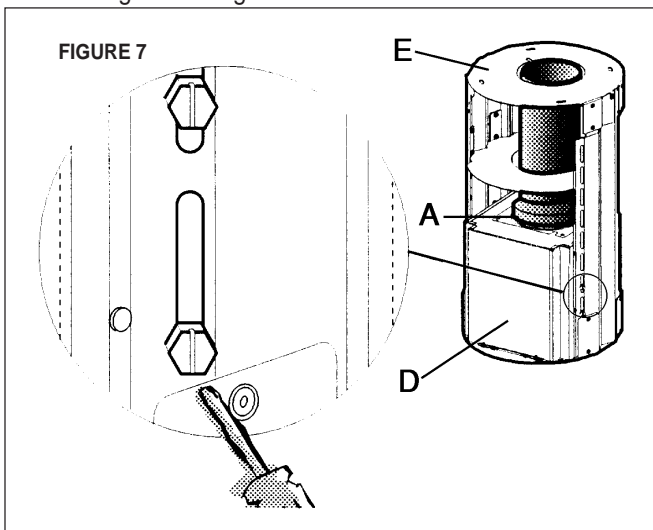
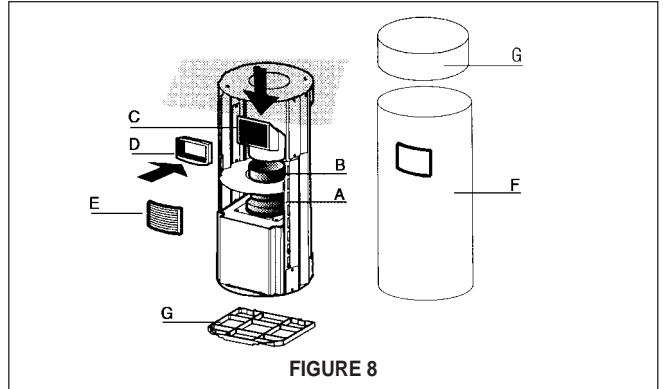

FIGURE 7
FIGURE 8
5. Determine the proper location for the Power Supply Cable as indicated on the template. Use a 1 1/4" Drill Bit to make this hole. Run the Power Supply Cable. Use caulking to seal around the hole. **DO NOT turn on the power until installation is complete!** A knockout is provided at the top of the UPPER CHIMNEY SUPPORT (E in FIGURE 7).
6. For ducted installations, place the round DAMPER (A in FIGURE 7) into the exhaust opening of the rangehood and press down.
7. Before attaching the support to the ceiling, you must determine the desired length of the support structure and adjust the length of the support by removing the eight screws (indicated in FIGURE 7) with a flat head screwdriver. Once the length of the support is determined, install and tighten the eight screws.
8. Slide the UPPER CHIMNEY COVER (C in FIGURE 1 for ducted installations - the upper chimney that came with the rangehood, or G in FIGURE 8 for ductless installations - the upper chimney that came with the ductless kit) down over the UPPER CHIMNEY SUPPORT (E in FIGURE 7) until it rests on the motor box (D in FIGURE 7). Attach the entire support to the ceiling. Make sure that the support is firmly attached to the ceiling.
Ductless installations require a **Ductless Conversion Kit** whose components are pictured in FIGURE 8. Do not use the DAMPER (A in FIGURE 7) for ductless installations. The LOWER CHIMNEY COVER (B in FIGURE 1) should be discarded and replaced by the new one with the hole from the **Ductless Conversion Kit** (F in FIGURE 8). The UPPER CHIMNEY COVER (C in FIGURE 1) should be discarded and replaced by the shorter one from the **Ductless Conversion Kit** (G in FIGURE 8).
As indicated in FIGURE 8, place the FLANGE (A) into the exhaust opening of the rangehood and press down. Fit the DUCTLESS DIVERTER EXTENSION VERTICAL (B) over the FLANGE (A) and fit the DUCTLESS DIVERTER (C) over the EXTENSION (B). Fit the DUCTLESS DIVERTER EXTENSION HORIZONTAL (D) into the DIVERTER (C).
2. Attach the duct work to the DAMPER (A in FIGURE 7). Make sure to seal all joints with duct tape to prevent leaks.
For ductless installations, line up the DUCTLESS DIVERTER EXTENSION HORIZONTAL (D in FIGURE 8) with the hole in the LOWER CHIMNEY COVER (F in FIGURE 8) and snap in the VENT GRID (E in FIGURE 8).